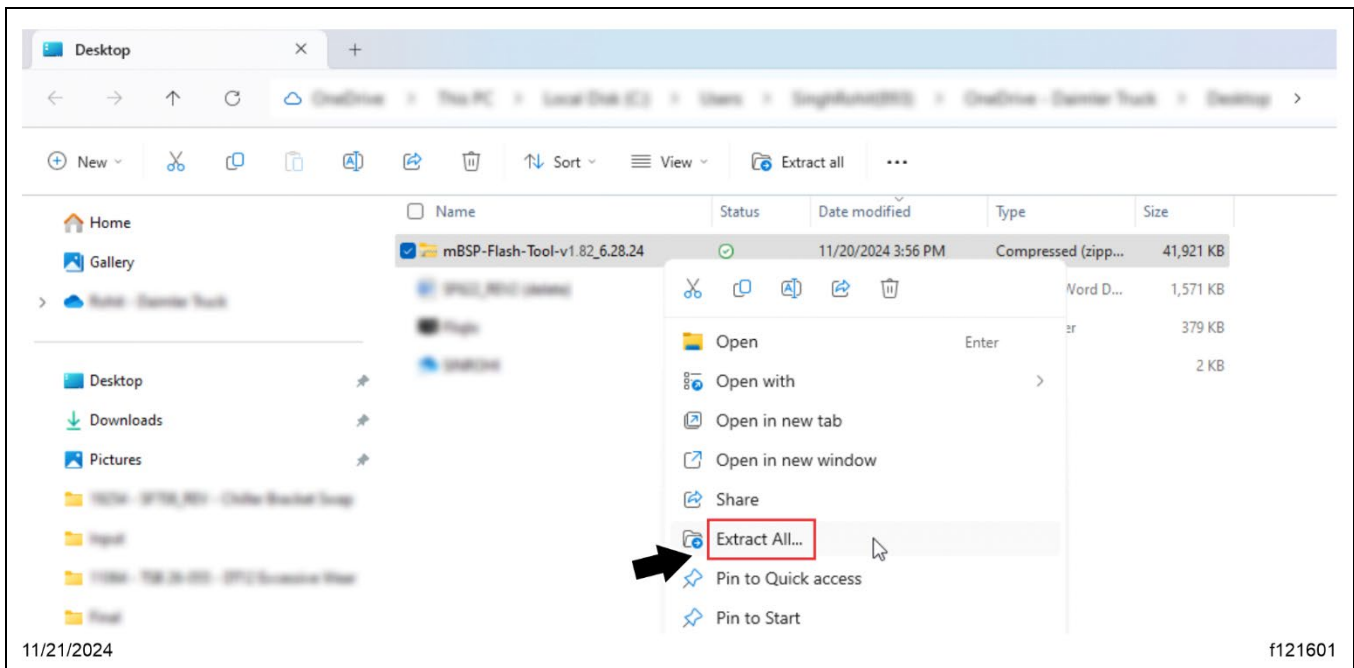

Fig. 26, Extracting the Downloaded Zip File
6.1. Right-click on the 'mBSP-Flash-Tool-v1.85.zip' folder and select 'Extract All...' See Fig. 26.